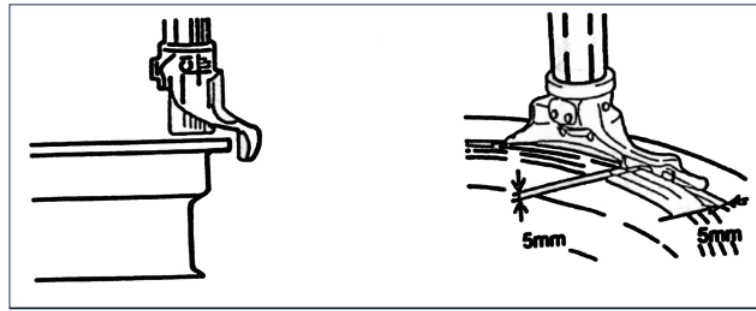

fig11
Move the vertical arm in the working position, make the mount/demount head close to the bead, the distance between the mounting head and the rim should be 4-5mm.(Fig. 11), then lock the arm by press the locking button.
If there is tube inside bead, take out the tube at first. Then turn over the wheel to demount the other side of the tyre. Insert the lever to lift the bead on the mount/demount head (Fig. 11), step the pedal (9) to turn the turntable clockwise, then demount the tyre.